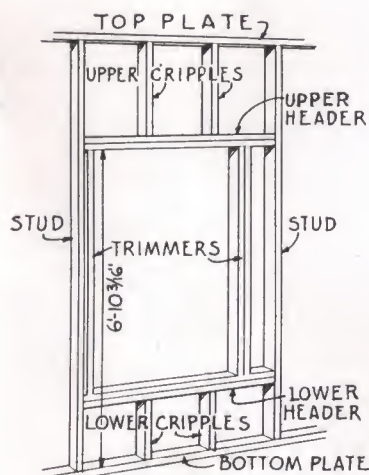

FIGURE 24
The window framing is composed of several pieces, the "Headers" which are the horizontal or cross-pieces which frame in at the top and bottom of the window opening. (See Fig. 24.) The "Trimmers" are vertical pieces at the sides of the window opening and run between the headers. The upper "Cripples" are the pieces above the opening, running from the upper header to the top plate. The lower "Cripples" go below the opening from the lower header to the bottom plate. (See Fig. 24.) (e)
- (e) The window openings (see Figure 24) are framed out the same as described for the framing of the doors excepting that the lower headers and cripples are framed first. Select the correct length cripples by referring to the plans. Before framing out the opening mark the locations of the cripples on the top and bottom headers as previously described. Then proceed as follows: